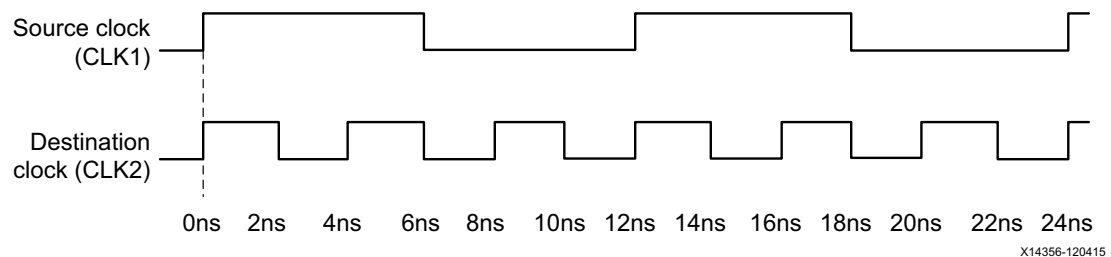

Figure 5-16: Multicycles Between SLOW-to-FAST Clocks
For example, assume that: (1) CLK2 is three times the frequency of CLK1; and (2) a clock enable signal on the receiving registers allows a Multicycle constraint to be set between both clocks. See Figure 5-16.